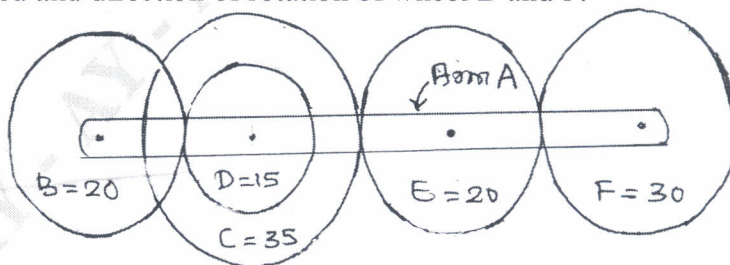

Fig. Q6 (b)
- b. Fig. Q6 (b) shows an epicyclic gear train wheel E is fixed and wheels C and D are integrally cast and mounted on the same pin, if arm A makes one revolution per second (CCW). Determine the speed and direction of rotation of wheel B and F. (10 Marks)